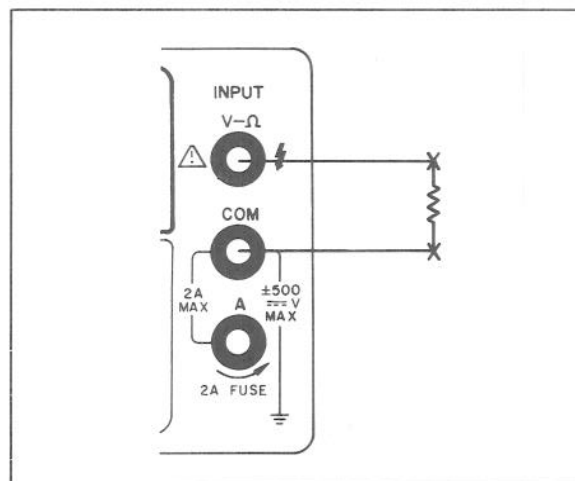

Figure 3-9. Resistance Measurement.
- Connect test leads from the Multimeter V Ω (+) and COM (-) terminals to the resistance under test as shown in Figure 3-9.